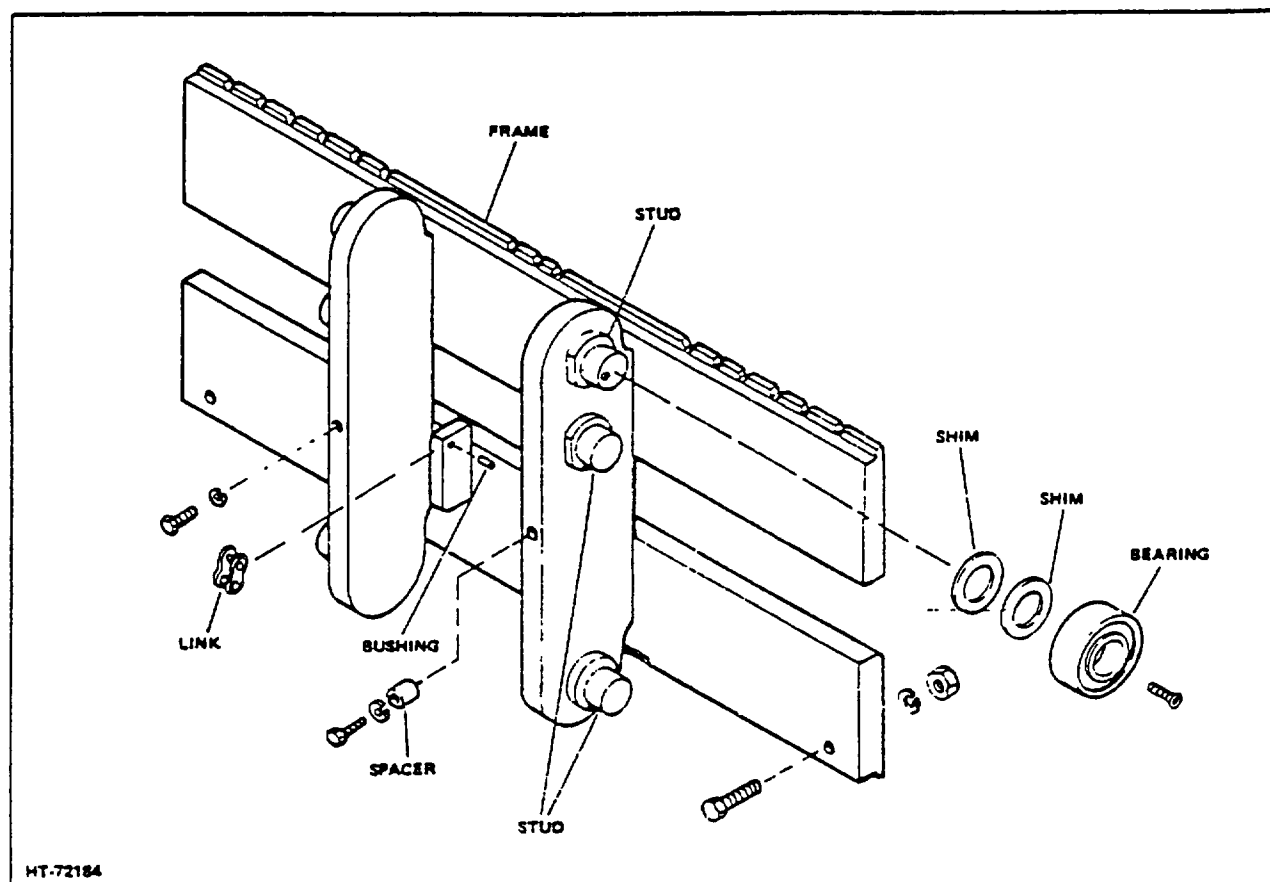

Figure 1. Hook Type Carriage Assembly (Typical)
The carriage assembly is a heavy duty structure of welded steel, built to provide ultimate strength and visibility, with a minimum of overhang from the center of the drive wheels to the face of the forks. The carriage assemblies are of different types and include: adjustable canted roller bearings (Fig 1),
C. ADJUSTMENT-CANTED BEARING TYPE (Figure 1)